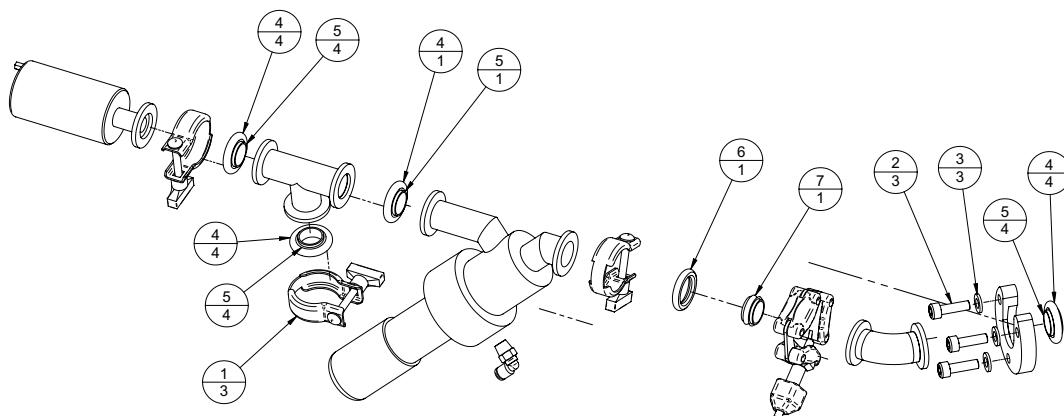

Figure 4.24 Bypass Pumping Line Assembly
1. Refer to Figure 4.24.
2. Undo clamp (1) to release the foreline from the bypass pumping assembly.
3. Remove three M6 x 20 screws (2) and washers (3) and remove the bypass assembly.
7. Refit the assembly to the chamber using screws (2) and washers (3).
8. Reconnect the foreline using clamp (1).